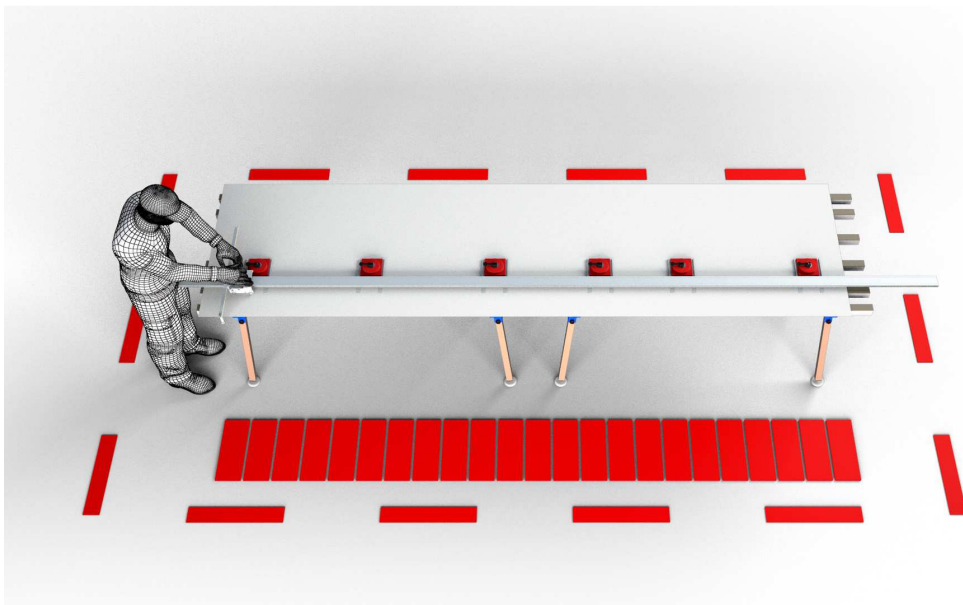
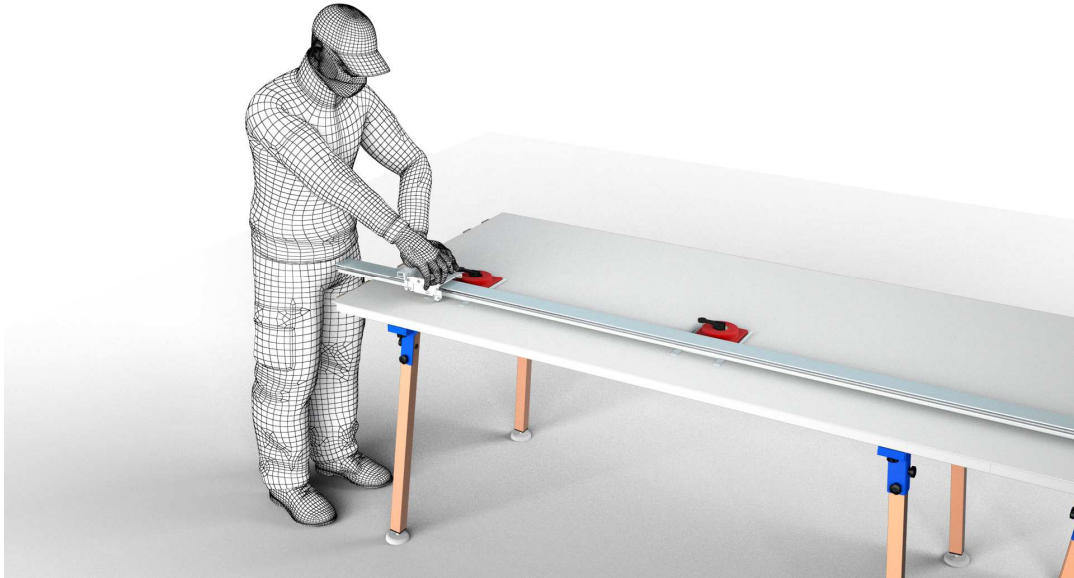

Fig. 6.1 Operator's working area
Fig. 6.3 Machine operation
The machine must be positioned to comply with the minimum clearances specified in figure 6.1 "necessary clearance".
The machine must be installed in an area which allows the operator's freedom of movement when in use. To this end, a position with a clearance on all 4 sides of the machine of at least 1 metre is considered suitable. When using the machine, the operator must move along the guide (see fig.6.1), holding the cutter knob in one hand and placing the other on top of the carriage (see fig.6.3).
9. Cut quickly and constantly, pressing on the knob with one hand and on the carriage with the other, as shown in fig.6.3.